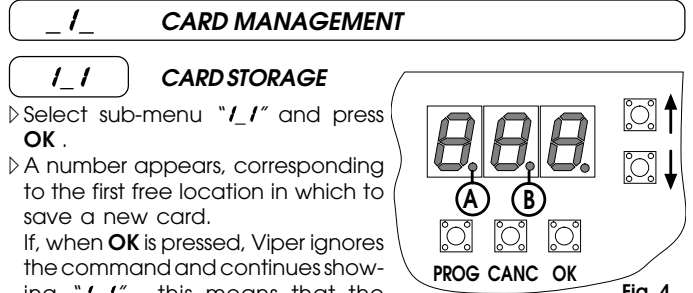

Fig. 4
- The associated location is also shown for each location, through the status of the two A and B LEDs in fig.4 (see function “\_2\_7”).
The associated location is shown for each location, through the status of the two A and B LEDs in fig.4 (see function "2\_7").